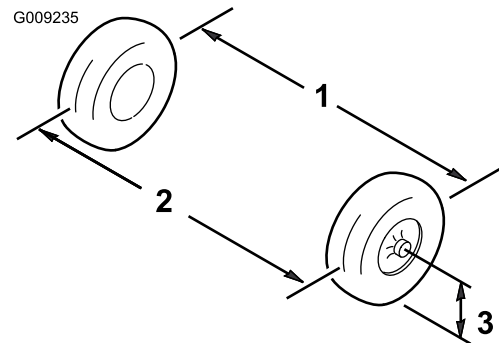

Figure 44
3. Measure the distance between both of the front tires at the axle height at both the front and rear of the front tires (Figure 44).